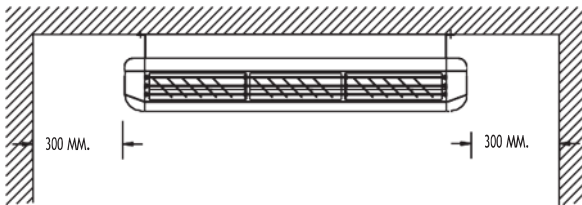

Figure 13
- (2) Select a location that has enough Service space when the unit is mounted under the ceiling. See figure 13